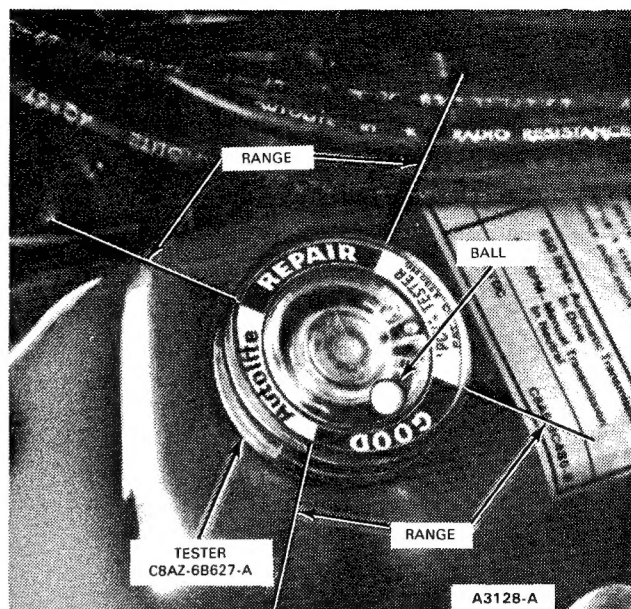

FIG. 4 Crankcase Ventilation System Tester
As an alternate test, on those installations where the system fresh air inlet is located in the oil filler cap, a Crankcase Ventilation Tester, C8AZ-6B27-A (Fig. 4) may be used. This tool indicates whether or not a sufficient amount of fresh air is being drawn into the system. When using this tool, be sure it fits the oil filler cap opening tightly, because it registers vacuum and air leaks will cause an erroneous reading. To use this tool:
2. If the ball (Fig. 4) settles in the Good (green) area, the system is functioning properly. If the ball settles in the Repair (red) area, perform Tests "A" and "B" to isolate the problem. Clean, repair or replace system components as necessary.